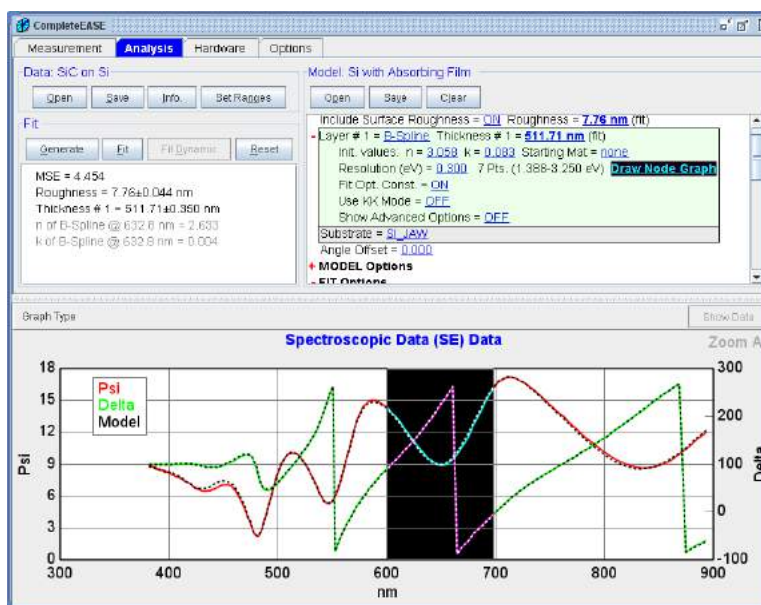

Figure 4-32. Range-selecting wavelengths between 600 and 700nm.
1. Range-select 600-700nm using the mouse (Figure 4-32).